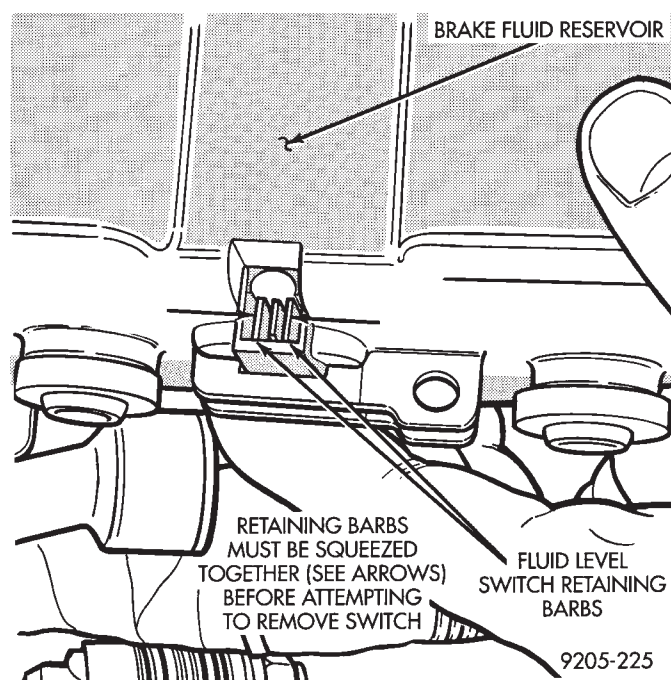
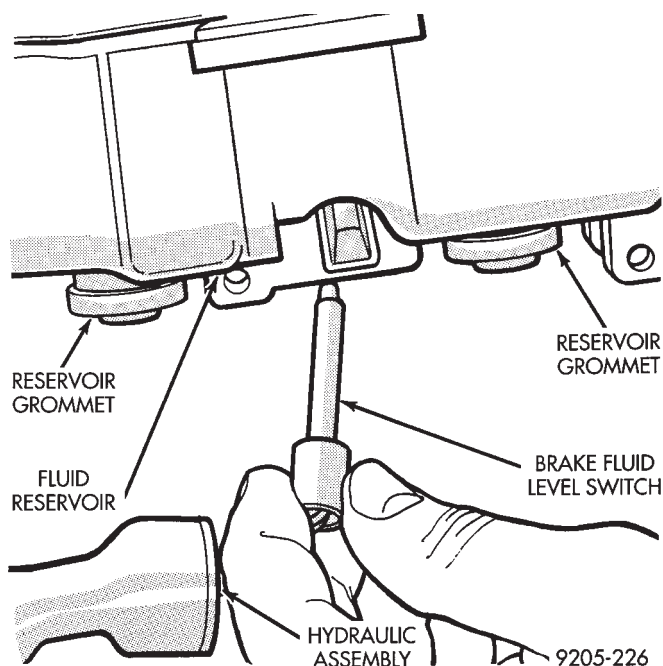

Fig. 13 Fluid Switch Retaining Barbs
Fig. 14 Remove Brake Fluid Level Switch
Remove switch by compressing the retaining barbs (Fig. 13) on the end of the switch and then slide switch out of the brake fluid reservoir (Fig. 14).
(7) Using fingers, remove the 3 reservoir grommets (Fig. 14) from the hydraulic assembly or reservoir, and discard. **Grommets must not be reused when reservoir is installed on hydraulic assembly.**
(1) Thoroughly lubricate the new reservoir grommets with clean brake fluid and install on reservoir outlet ports (Fig. 14). **The new reservoir grommets supplied with reservoir, must ALWAYS be used.**
(2) Install brake fluid level switch into brake fluid reservoir (Fig. 14).
(3) Press reservoir into hydraulic assembly **BY HAND**, using a rocking motion to help seat reservoir into hydraulic assembly. Be sure that grommets are fully seated in the hydraulic assembly. **DO NOT ATTEMPT TO POUND RESERVOIR INTO HYDRAULIC ASSEMBLY, USING A HAMMER.**